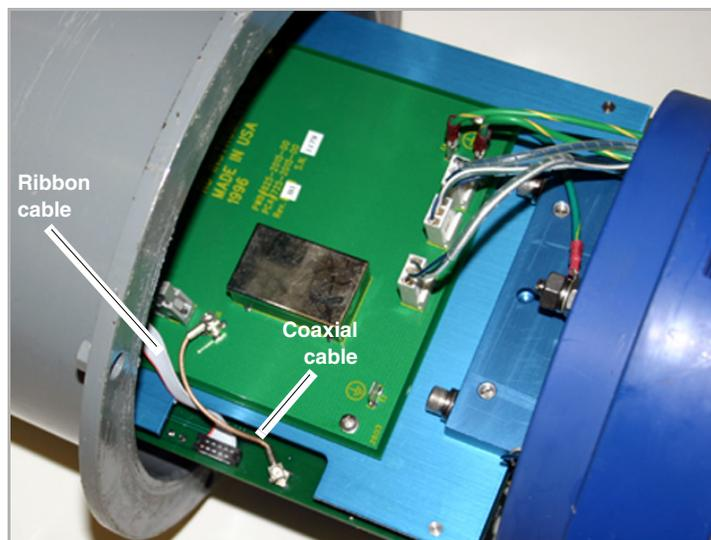

Figure 3-6 Canister controller sensor interface board connections
2. The interior electronics are attached to the lid. Laying the controller on its side, very carefully ease the lid a few inches away from the case (Figure 3-6). Wiring from the battery compartment is connected to the electronics. **Do not attempt to pull the electronics all the way out of the case.**